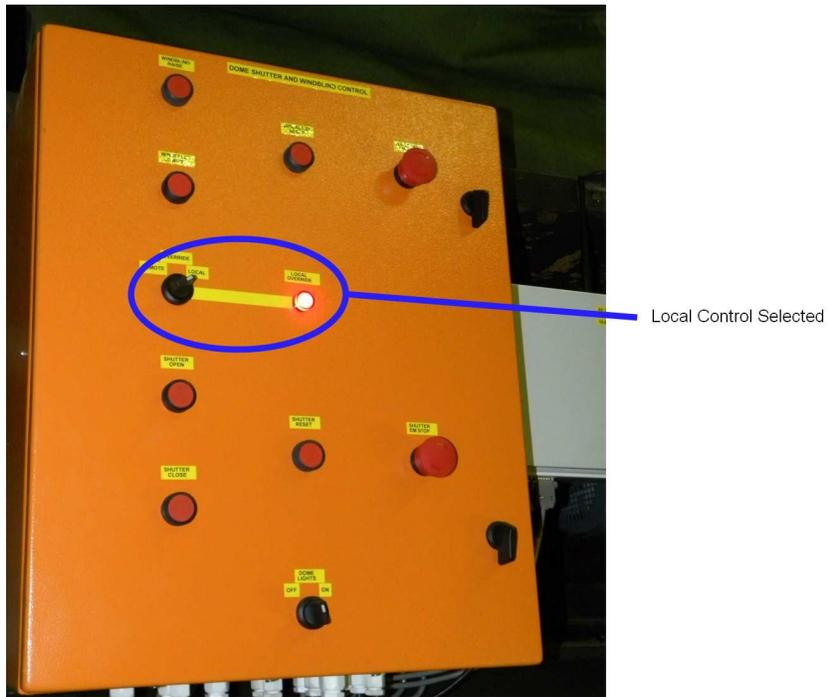

Figure 8.2: An indicator illuminates to show local control on the dome shutter control panel on the catwalk.
- **If all else fails.** Check that the dome control cabinet on the catwalk is not set to local control. If control panel is set to local control an indicator on the control panel will illuminate (Fig. 8.2). The user cannot control the dome shutters and wind blind from the observing floor or TCS if the control cabinet is set to local mode. Switch the control switch to remote mode to enable remote operations. Check that the emergency stops on the control cabinet are not pushed. If they are, check why with the technicians before disengaging the emergency switches. There is no indication on the TCS if these switches are pressed. It may also be possible that the sliprings are not making proper contact. Move the dome slightly and see if control returns.
Locate the manual control handle. This handle looks like a ship's steering wheel next to the dome shutters control cabinet. Looking at the right side of the steering wheel you will see two locking latches. Fig. 8.2 shows the latches in the “wheel disengaged” position.
Flick the front latch over to allow the wheel to be moved forward and backwards, as in Fig. 8.2. Once the wheel is free, push the wheel forwards to engage the wheel with the drive systems and throw the front latch over to lock the wheel in the engage position, as shown in Fig. 8.2.